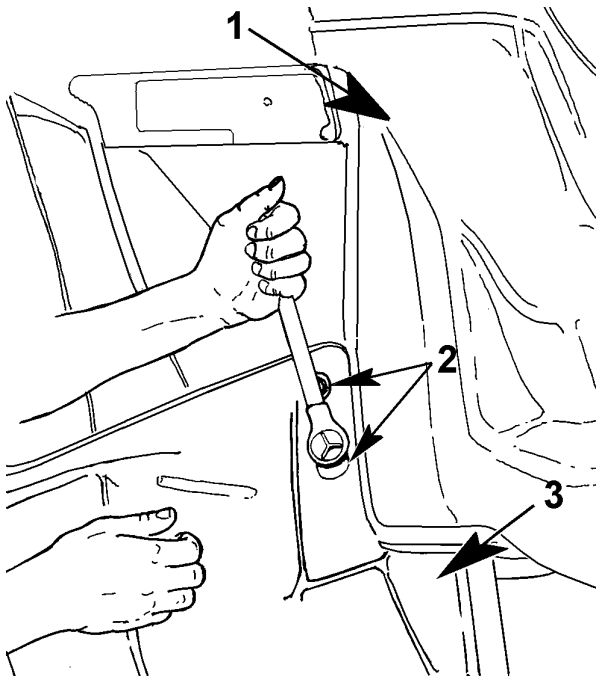

Figure 20 Splash Panel Install (Drivers Side Shown)
1. With the hood tilted locate the driver side 2 forward mounting bolts (Item 2, Figure 20) attaching the splash panel to the front hood assembly.
6. Position the hood/fender splash panel on the inner fender of the hood/fender assembly (Item 2, Figure 20). Install the 2 forward mounting bolts and lock washer to the hood/fender assembly.